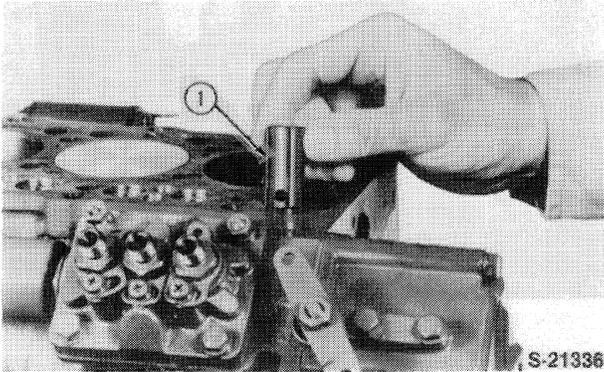

Figure 28
- Using a magnetic rod, remove the valve tappets (1) from the top of the engine block, Figure 28.